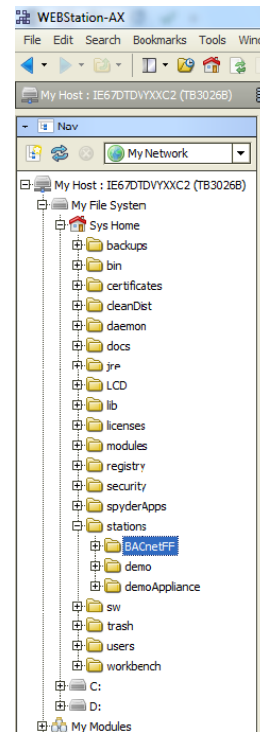

Fig. 12. Location of New Station (BACnetFF)
- Click 'Finish' to complete action. It creates a station at 'My Host > My File System > Sys Home > Stations > (created station)'. Refer to Figure 12.